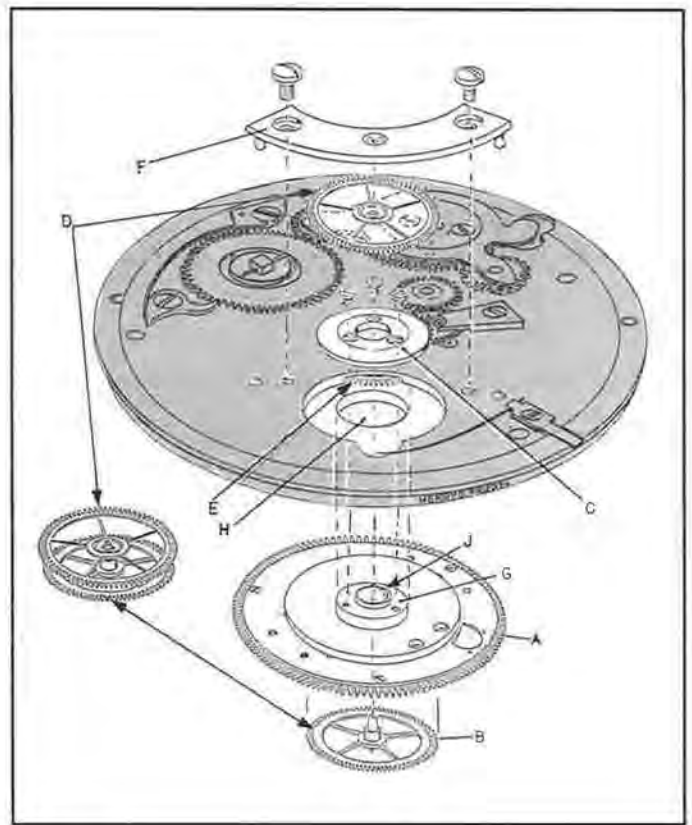

Figure 13.
To assemble the karrusel carriage to the movement, use the disc of pithwood to position the carriage in its journal-bearing hole (H), located in the main plate (see Figure 13). Place the plate (C) to coincide with the screw holes in the boss (G) guided by the collar (J). Make certain that the screws are equally secure. Test the carriage for freedom of rotation and its minimum endshake.
The wheel (D, Figure 13) is correctly positioned when it is level and perfectly enmeshed with the teeth of the centered fourth wheel (E). The combination carriage fourth wheel and lower balance jewel bridge may now be replaced and secured.
Replace the dial side fourth wheel bridge (F, Figure 13) and lubricate both upper and lower fourth wheel pivots. Test for train action up to this stage.